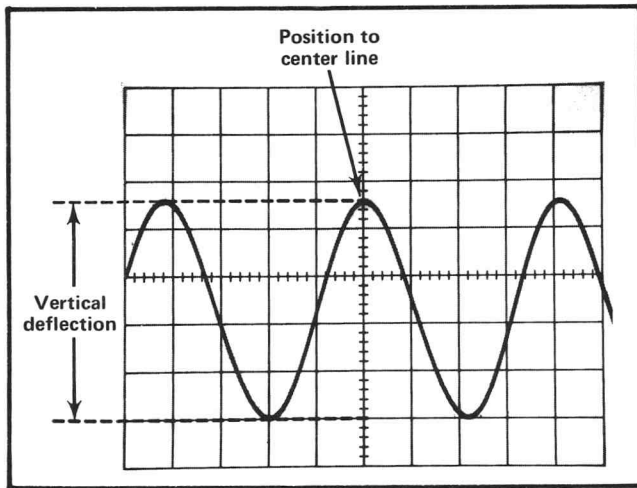

Fig. 2. Measuring peak-to-peak voltage of a waveform.
6. Turn the vertical POSITION control so the lower portion of the waveform coincides with one of the graticule lines below the center horizontal line, and the top of the waveform is on the viewing area. Move the display with the horizontal POSITION control, so one of the upper peaks lies near the center vertical line (see Fig. 2).
Example. Assume a peak-to-peak vertical deflection of 4.6 divisions (see Fig. 2) and a VOLTS/DIV switch setting of .5 V.